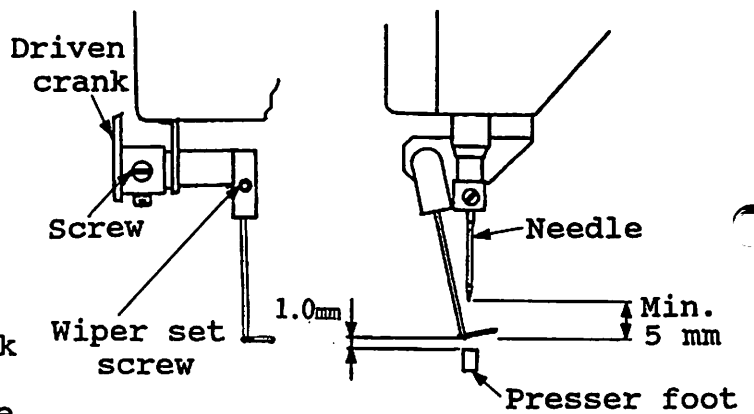

Fig. 9.13
- (5) While using your finger to push down on the drive crank, rotate the rotary solenoid by hand, and check that it moves smoothly across the entire range.
- (6) Adjust the thread wiping position of the wiper to the dimension shown in Fig. 9.13 when drive crank has been stopped at the above position.